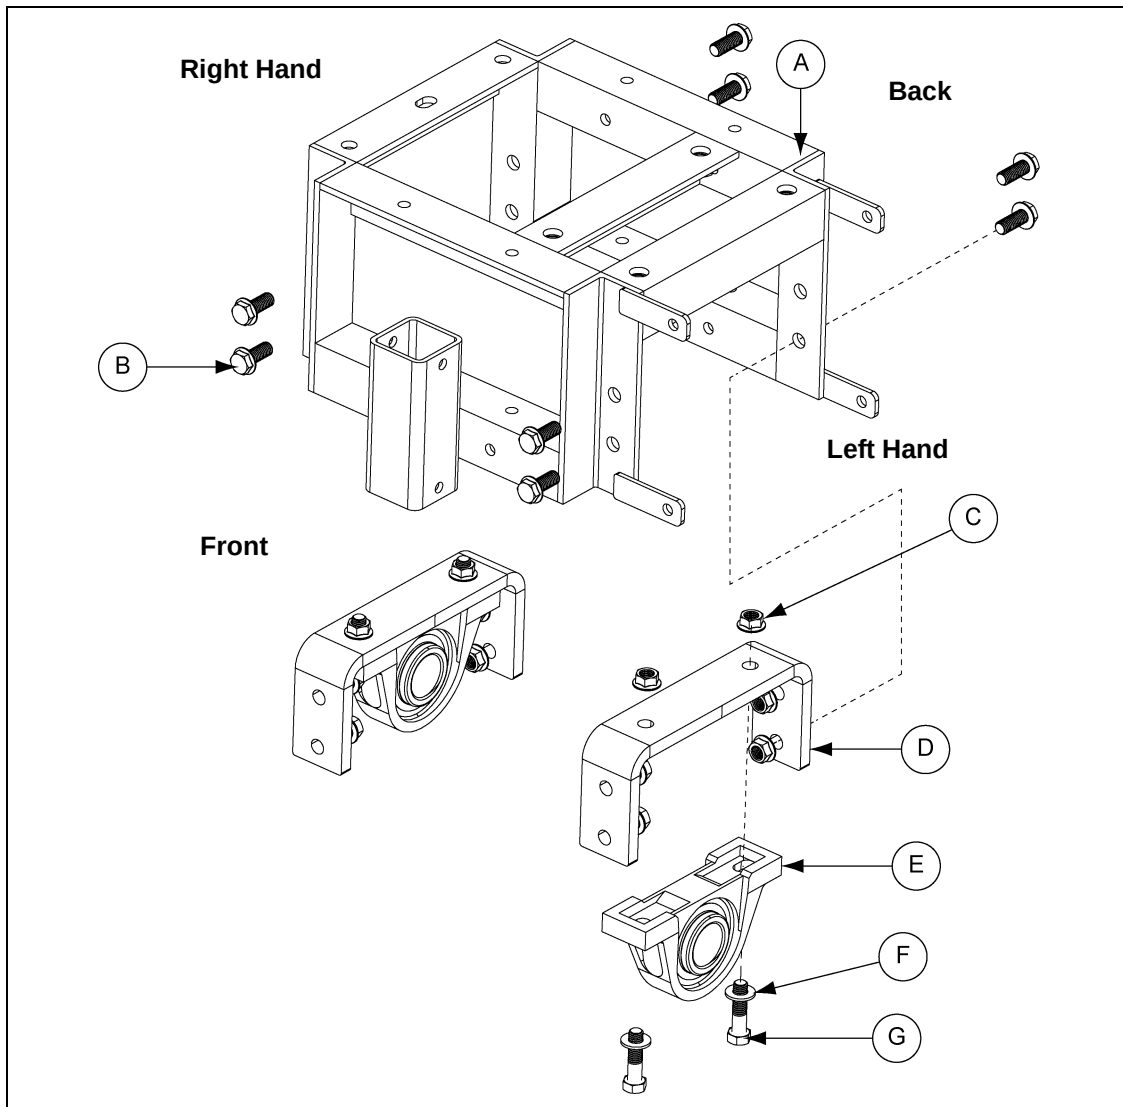

Figure 4P
1. Place the tractor frame (A) on plain flat ground.
2. Bolt each pillow block bearing (E) to a bearing mount bracket (D) using two (2) 1/2"-13 x 2" hex head cap screws (G), two (2) flat washers (F) and serrated flanged nuts (C).
3. Bolt each bearing mount bracket (D) to the tractor frame (A) using two (2) 1/2"-13 x 1-1/4" flange bolts (B) and serrated flanged nuts (C). *(See Figure 4P.)*